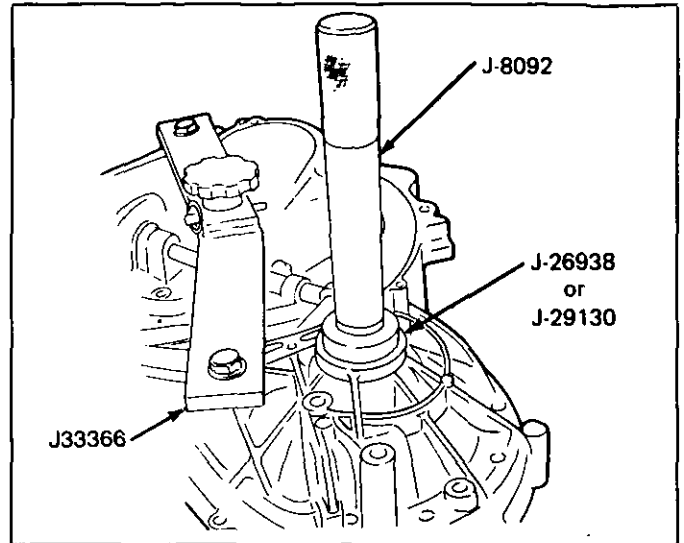

Figure 48 Drive Axle Seals
19. Install drive axle seals using J-26938 or J-29130 with J-8092 (Figure 48).